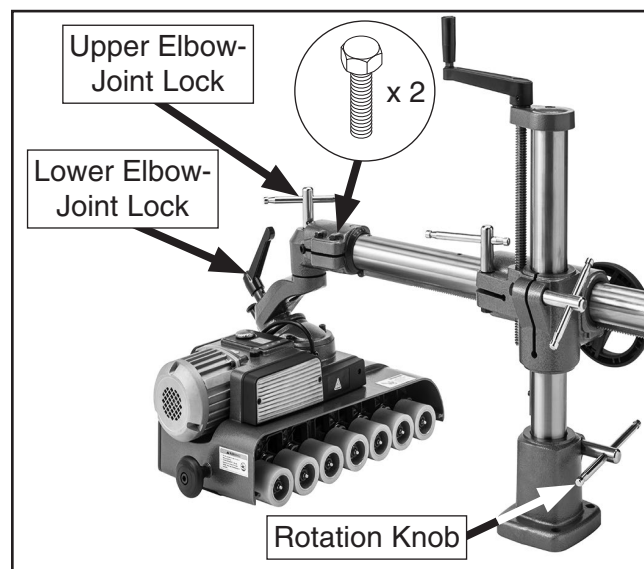

Figure 24. Location of controls for re-positioning power feeder for incline feeding.
Use the controls shown in **Figure 24** to position the power feeder for incline feeding.
2. Loosen rotation lock and swing power feeder off of machine table (see **Figure 24**).
3. Loosen (2) hex bolts on upper elbow-joint, rotate upper elbow to desired angle, then tighten hex bolts (see **Figure 24**) to secure setting.
4. Loosen upper elbow-joint lock and lower elbow-joint lock (see **Figure 24**).